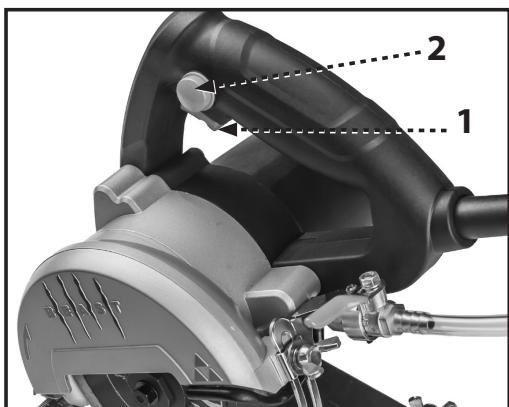

FIGURE 9
1. Ensure the water supply valve (4) is in the CLOSED position.
4. See Fig. 9. To start the motor, squeeze the trigger switch (1)